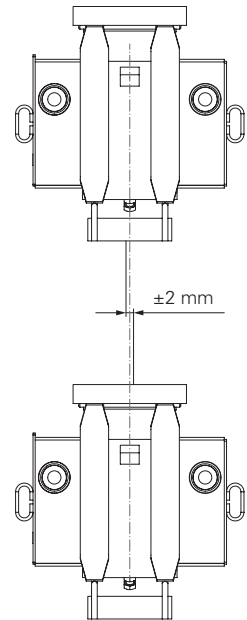

Fig. A3.31
- Climbing Shoe II: ± 2 mm (Fig. A3.31)